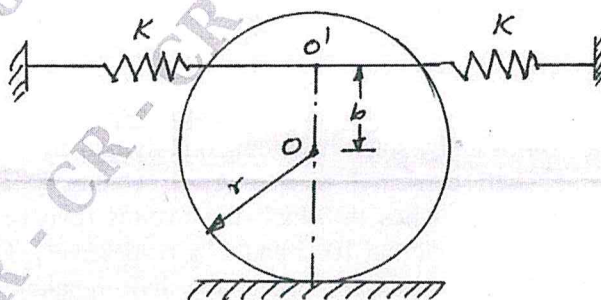

Fig. Q8 (b)
- b. Find the natural frequency of the system as shown in Fig. Q8 (b). Solve by energy method. (08 Marks)